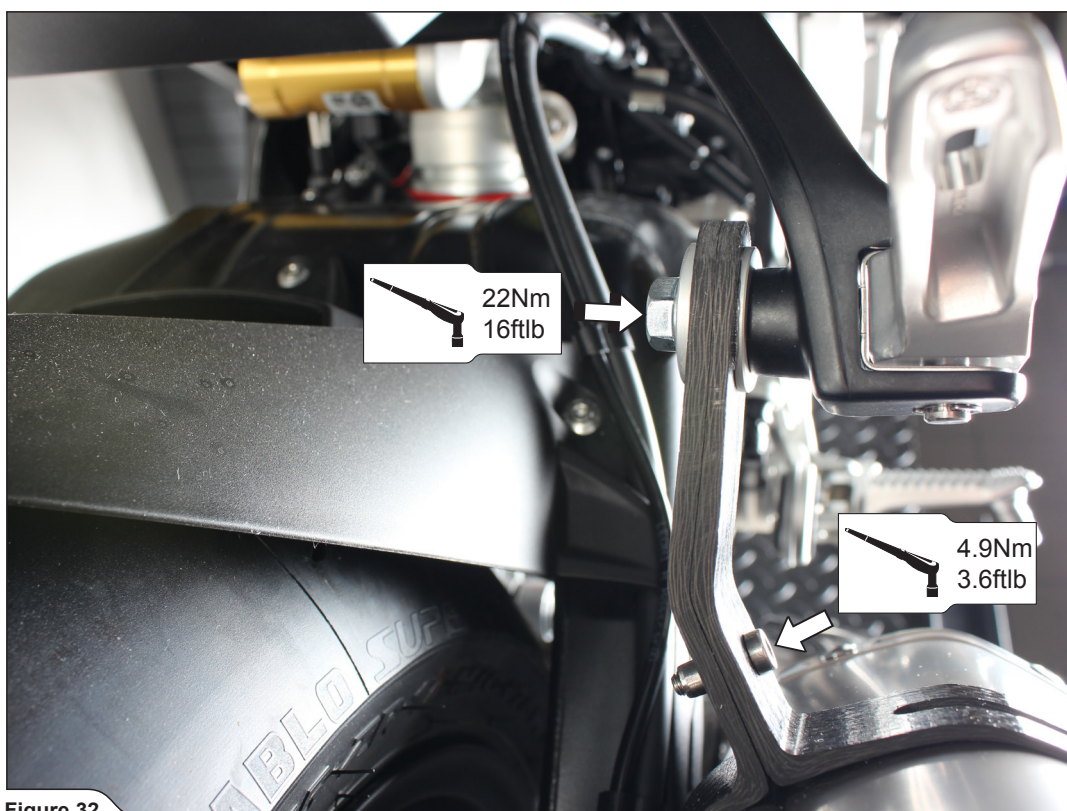

Figure 32
6. Reinstall the Slip-On systems muffler (without link pipe!); check the **Slip-On** exhaust system installation manual for details (Figure 32).